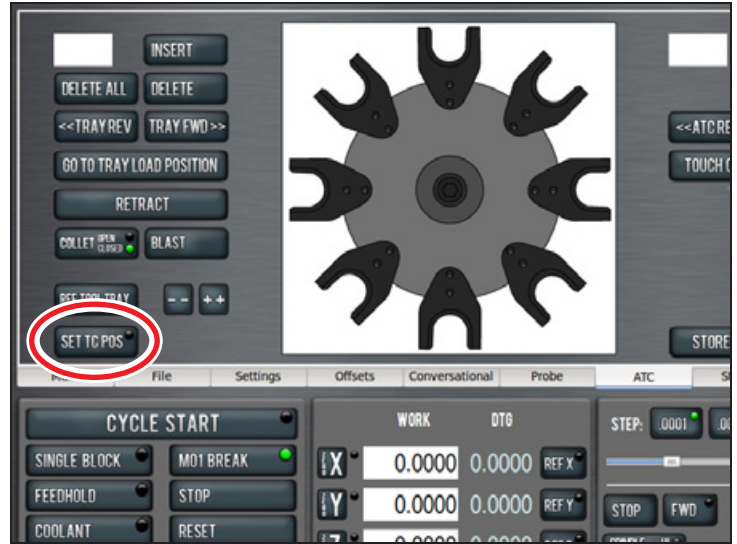

Figure 32
2. On the *ATC* tab, click the *Set TC POS* button (see **Figure 32**).